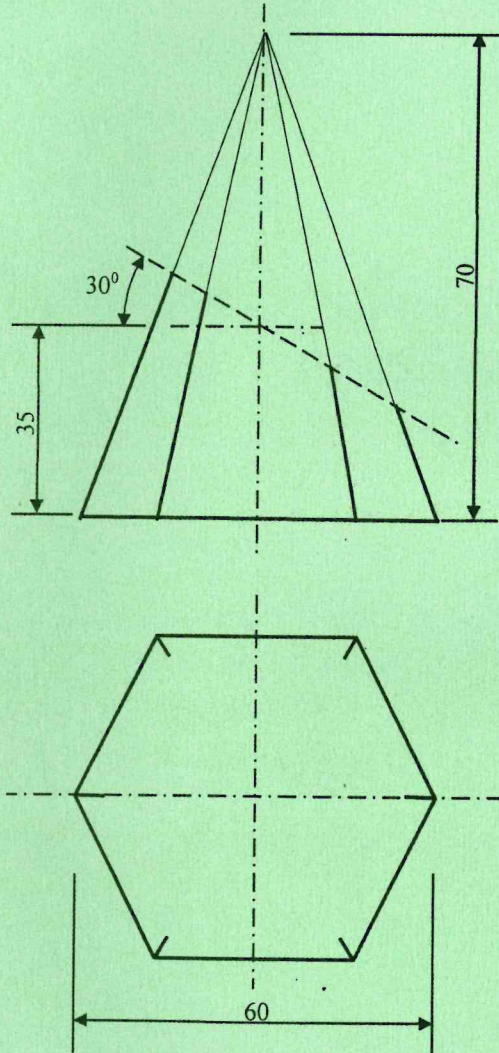

Fig. 3
8. Figure 3 shows an elevation and incomplete plan of a hexagonal pyramid cut at 30° to the horizontal. Copy the elevation and outline of the plan and draw the following: